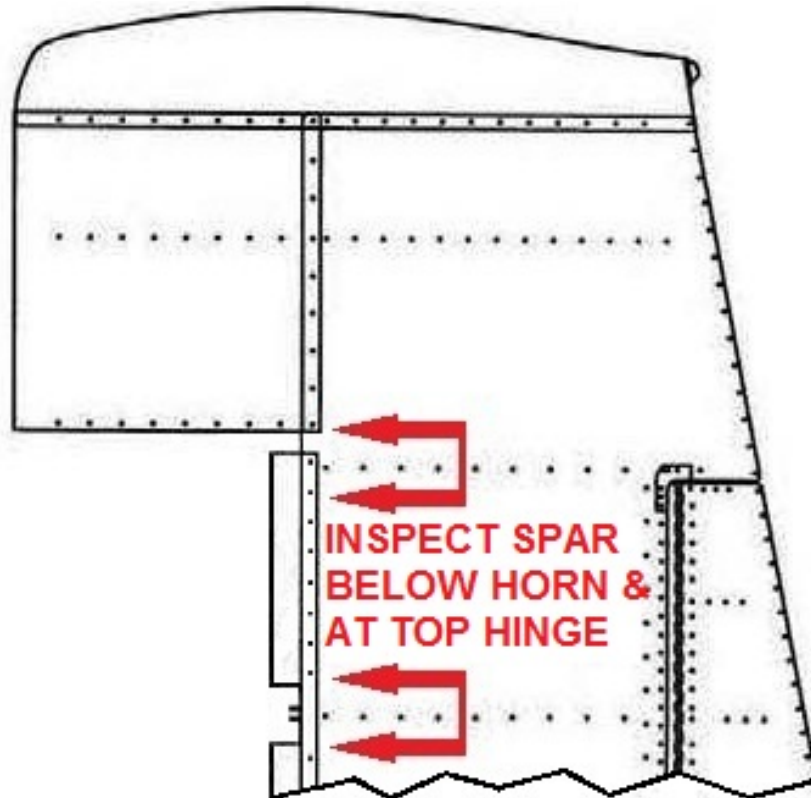

Figure 55-4: Rudder Spar Inspection Area
6. If no lateral motion is detected, use a flash light and inspection mirror to inspect the rudder spar assembly immediately below the rudder horn (see Figure 55-4). If any cracks are detected, proceed immediately to the periodic inspection, page 5.